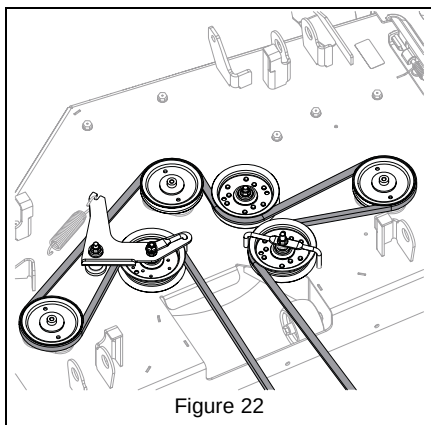

Figure 22
1. Install deck drive belt. See Figure 22.